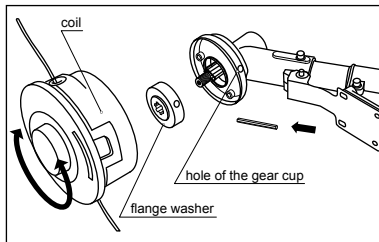

fig. 9
- Remove the cup from the shaft, press the washer, leaving the flange washer in place (fig. 9).